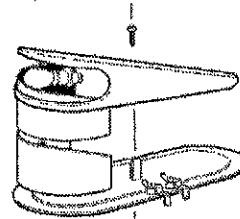

figure 17
- 3 - Replacement of lighted top cover bulb: remove the fixing screw placed in the upper part of the top cover, remove the lower part and replace the bulb (using a 24-28V 21W max bulb). Reassemble the top cover and replace the fixing screw.(see figure 17)